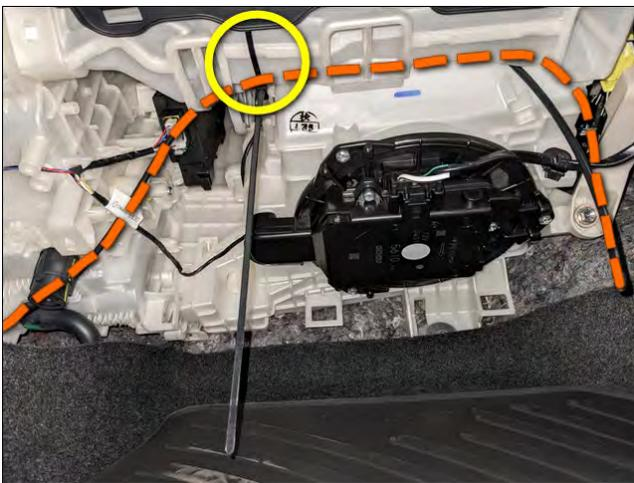

Figure 46
- (a) Route the fiber optic cable in the passenger's footwell, routing it behind the factory harness and behind the fan, as shown in Figure 46.
- (b) Secure the fiber optic cable with a wire tie, as shown in Figure 46.